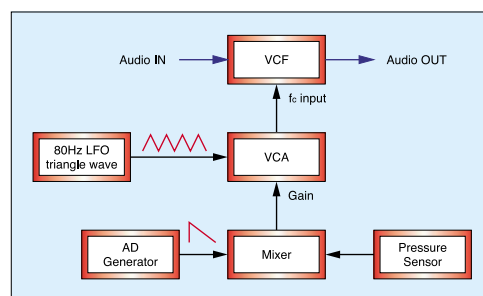

Figure 15: Adding initial 'growl' to the sound.
► Over the years, I've found that a triangle wave is an acceptable source for this modulation, and a frequency in the region of 80Hz does the trick nicely (this, by the way, is one of the reasons why I point out that a maximum LFO frequency of, say, 25Hz is inadequate when reviewing synths). Of course, you don't want the resulting growl to last for the duration of the note; it should last as long as the instability in the acoustic instrument we're synthesizing. Therefore, we patch the modulation into the filter through a VCA whose gain is controlled by an AD contour generator, as shown in Figure 15.